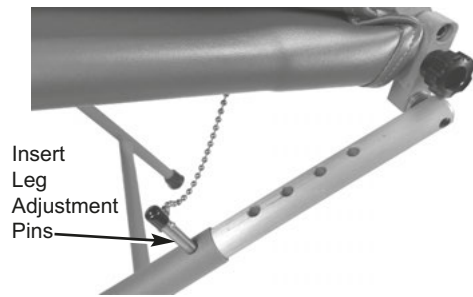

Figure 2 - Leg Adjustment Pin Placement
3. Standing in front of the chair, put your toe on one of the front chair legs and lift up on the backrest and front seat portion. Raise chair seat to desired height. Lock in place by inserting leg adjustment pins through chair leg tube and into adjustment link on the right and left side of the chair. (Fig. 2)
- 1. Seat Height-** The chair seat height can be set at any of the five preset settings. Without a patient in the chair, put your toe on one of the front chair legs and lift up slightly on the chair seat. While lifting and holding seat, remove the leg adjustment pin from the right and left side. Align link with tube hole in any of the five positions and lock in place by inserting the pin and chain assembly. (see Fig. 2)